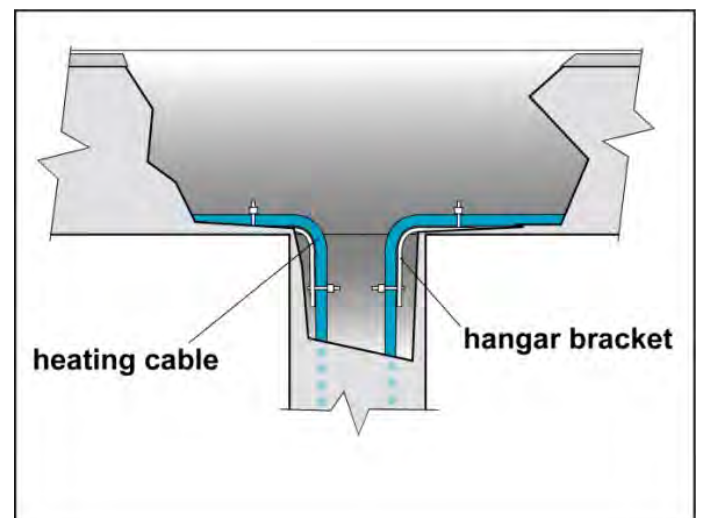

Figure 8: SRK15 Downspout Bracket
1. Run the heating cable in the gutters and into downspouts, end the cable in a loop at the bottom of the downspout and then run the cable back up the downspout using a tie wraps to fasten it as shown in Figure 8. Permanent attachment of the cable to the gutter bottom is not necessary.